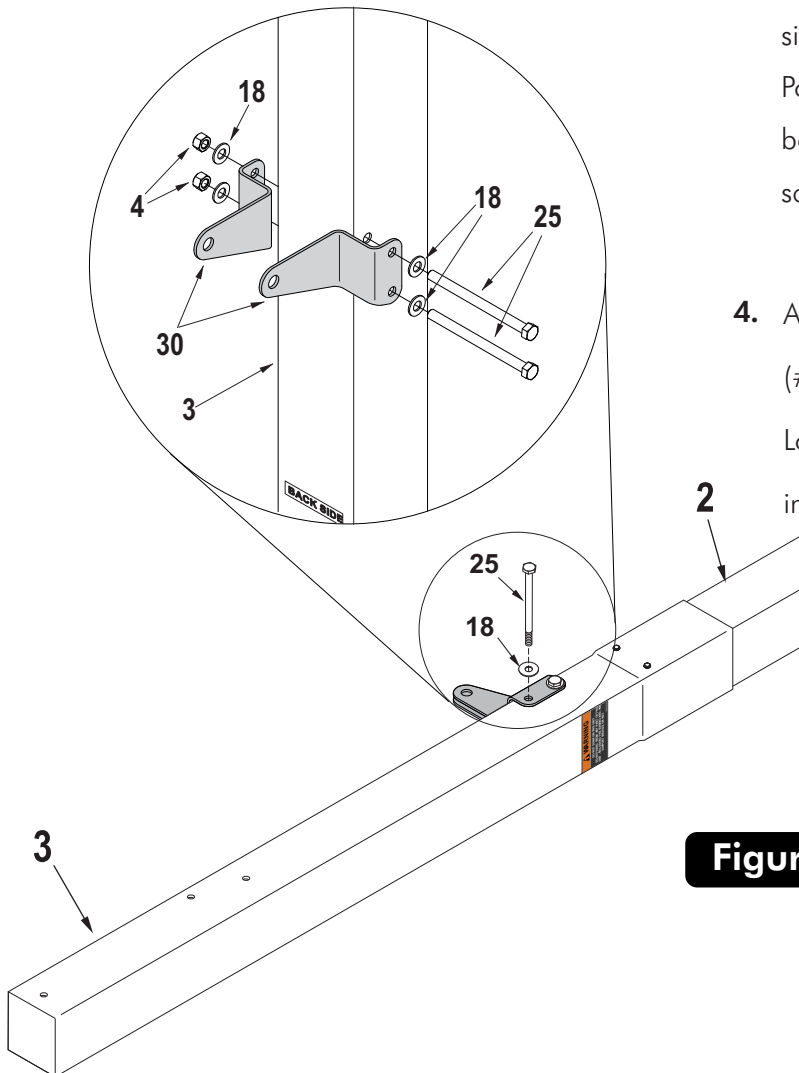

Figure 5
4. Attach Post Ears (#30) to holes near the bottom of Top Post (#3) using two Hex Bolts (#25) four Washers (#18) and two Lock Nuts (#4). **Do not** tighten nuts (#4) completely until instructed to do so. See **Figure 5**.